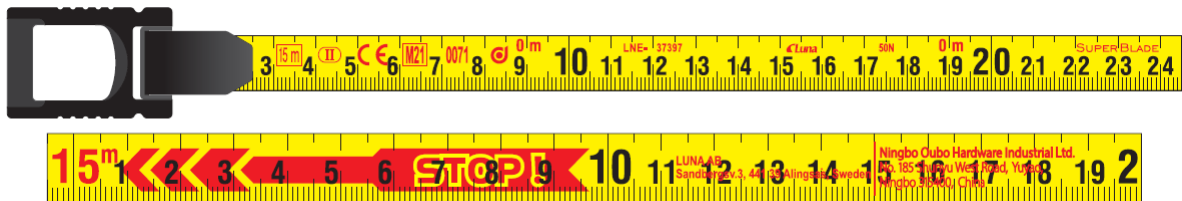

Figure 4 Examples of the long steel tape measure blade and the case model
7.3 Having alternative models of long steel tape measure blade as detailed in Table 3 below (Figure 4).
- Figure 4 Examples of the long steel tape measure blade and the case model